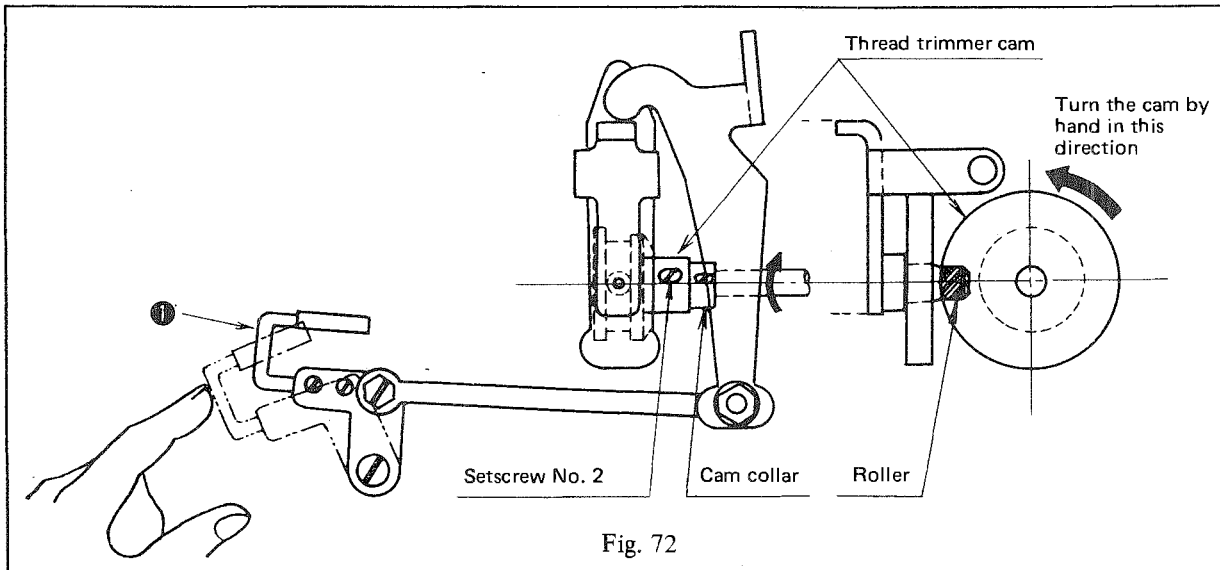
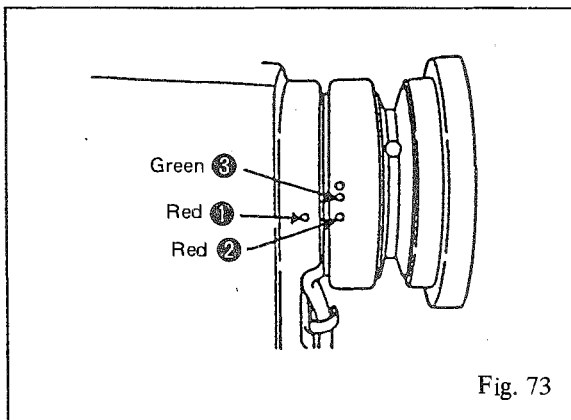

Fig. 72
Fig. 73
Loosen the two setscrews in the thread trimmer cam (Fig. 72), starting with setscrew No. 1, followed by setscrew No. 2.
Then align red marker dot ① on the machine arm with red marker dot ② on the pulley, as illustrated in Fig. 73. Pressing the bobbin thread presser (④ in Fig. 72), allow the cam to engage with the roller.
Using your fingertip, turn the cam in reverse to the normal direction of rotation of the hook driving shaft (in the direction of the arrow in Fig. 72) until it can go no further. The hook driving shaft should be kept stopped. Now press the cam against the roller (Fig. 72) and tighten setscrew No. 2, followed by setscrew No. 1.
- ① Align the red marker dot (① in Fig. 73) on the machine arm with the green marker dot (③ in Fig. 73) on the handwheel.
- ② Sew the first stitch at the sewing start in the soft start mode (800 s.p.m.).
**[Caution]** Adjustment ② is not applicable for a thread with a large number count.